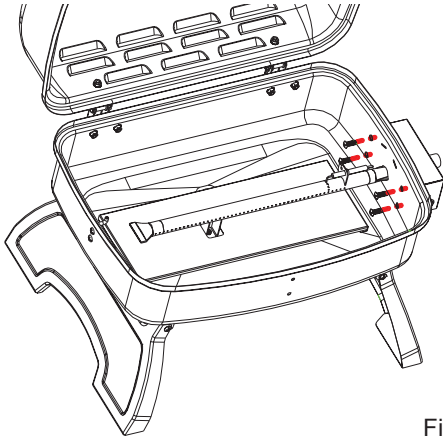

Fig. 3B
*Procedure:* Attach the Control Panel to the firebox using (4) M6x15 bolts as shown in Fig 3B.